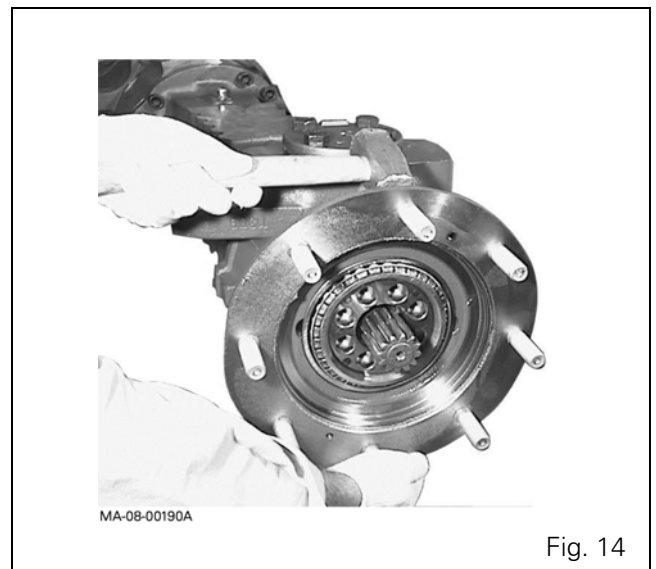

Fig. 14
- 14.** Remove the wheel hub using levers and a hammer to facilitate the operation (Fig. 14).